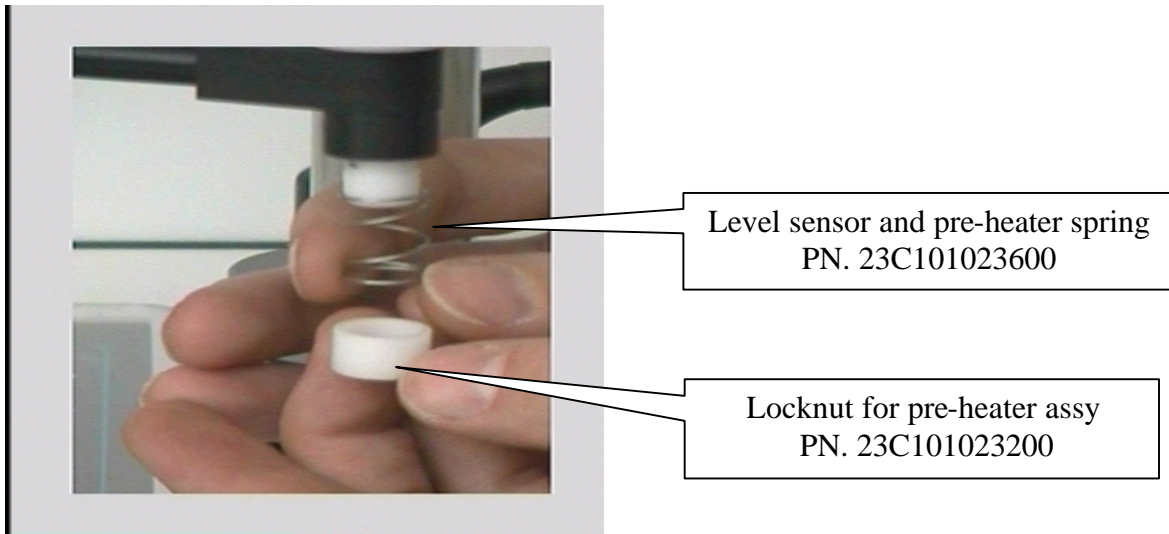

Fig. 6
9. Remove the teflon washer and the spring (Fig.6).